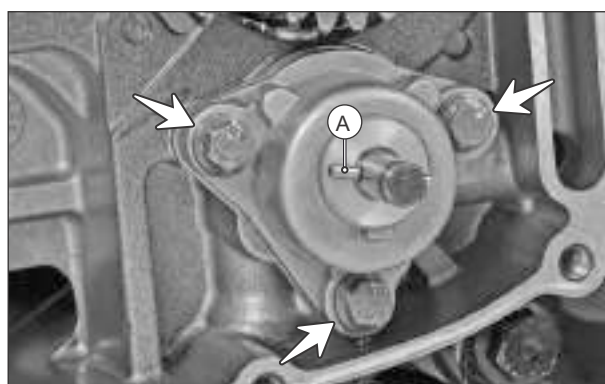

Fig. 3.119
(Fig. 3.119)
- Remove hexagonal flange bolt (3 nos.) from the pump assembly oil and pull out pump assembly. (Fig. 3.119)